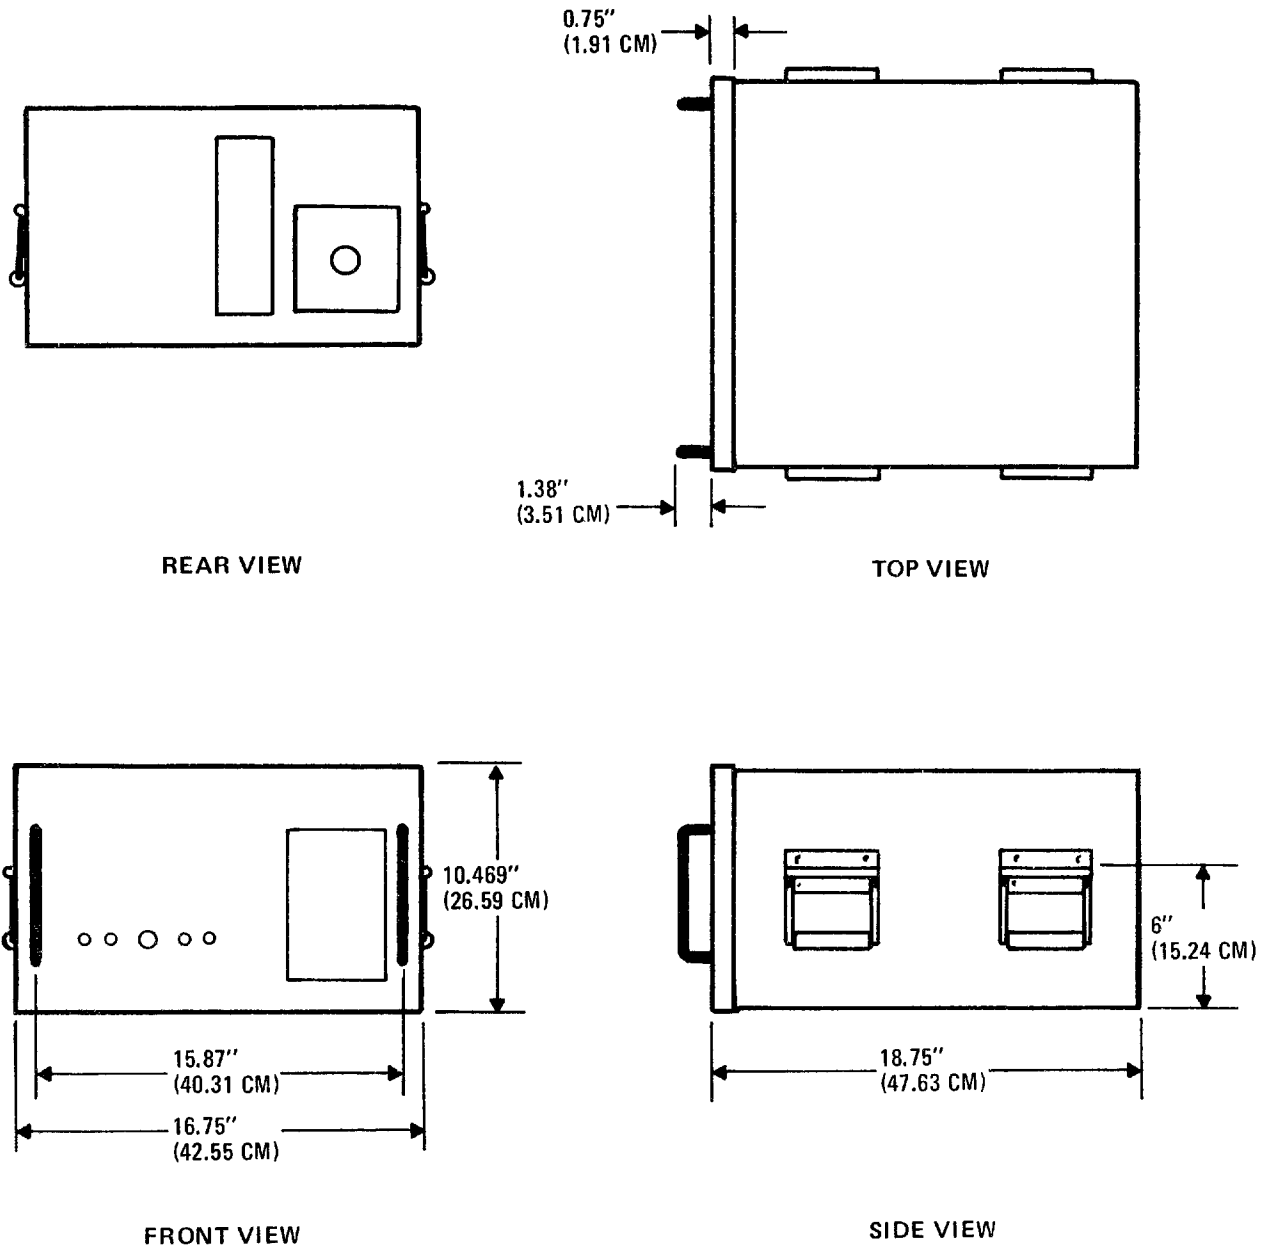

Figure 2-4. Dimensions
**2-5. 1KW POWER SUPPLY MOUNTING INSTRUCTIONS.** The exact method of mounting the 1KW Power Supply depends upon the type of installation selected. Refer to figure 2-4 for 1KW Power Supply dimensions. Make sure that the mounting surface allows adequate room for the 1KW Power Supply and has proper clearance for cable interconnection.
- a. Refer to figure 2-4 for the 1KW Power Supply dimensions. Make sure that the mounting surface allows adequate room for ventilation intakes and outlets, and has proper clearance for cable interconnection.